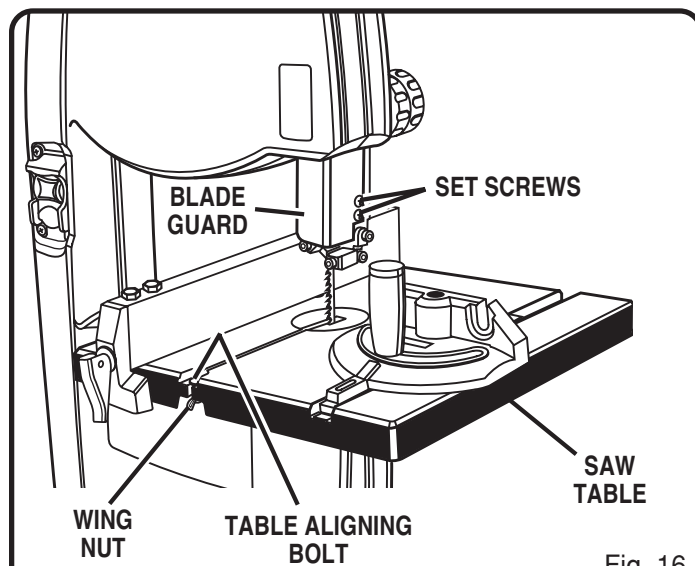

Fig. 16
See Figures 16 and 17.
- Loosen and remove the wing nut and table aligning bolt from the saw table. See Figure 16.
- Loosen the two set screws that hold the blade guard in place using the 4 mm hex key provided then remove the blade guard. See Figure 16.